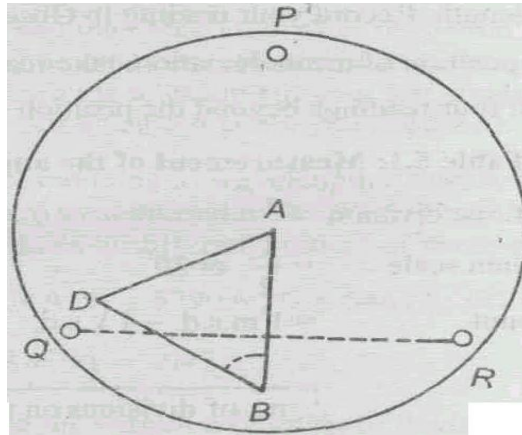

Fig.5.3 Mounting the prism for measurement of its angle
1. Mount the prism on the prism table in such a way that its refracting edge  $A$  lies over the centre of the prism table and the face  $AB$  is normal to the line joining levelling screws  $Q$  and  $R$ , as shown in Fig.5.3.